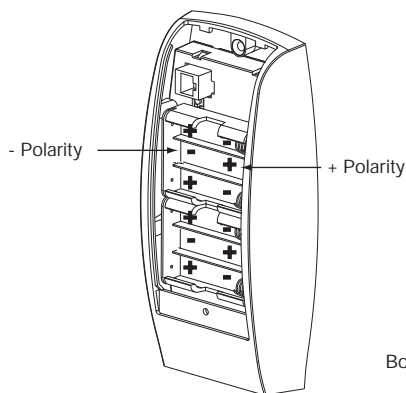

Fig. 5
1. Place (6) "AA" batteries into the compartment, being careful to align polarity properly (Fig. 5).